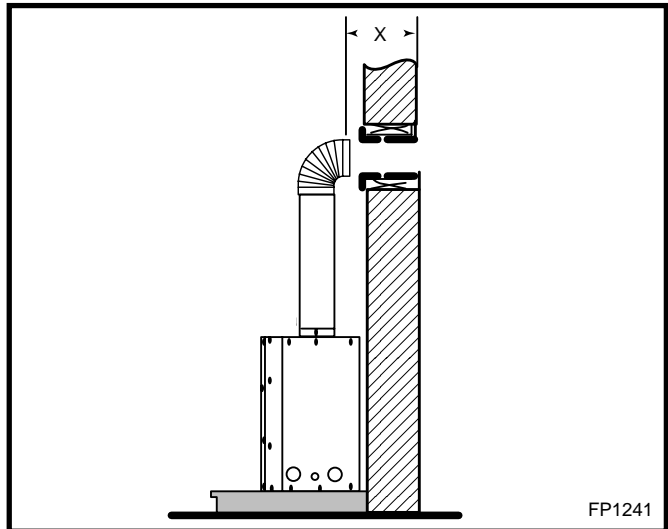

Fig. 20 Horizontal length requirement.
Apply a bead of high temperature sealant to the inner and outer flue collars of the fireplace and using appropriate venting component(s) attach to fireplace with three (3) screws. (Fig. 20) Follow with the installation of the inner and outer elbow. Again secure joints with three (3) sheet metal screws. Wipe off any excess high temperature sealant.
Measure the horizontal length requirement including a 2" (51mm) overlap, ie from the elbow to the outside wall face plus 2" (51mm) (or the distance required if installing a second 90° elbow). (Fig. 20)